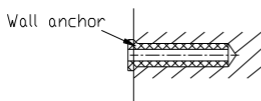

Figure 6
3. Insert two wall anchors and tap them into the holes (see Figure 6).